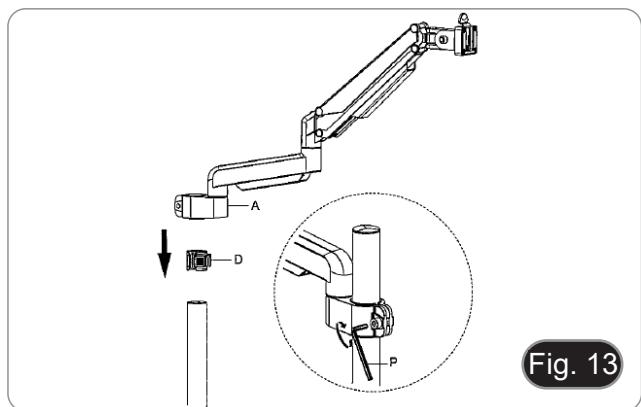

Fig. 13
6. Insert the cable holder (D) in the pillar.
7. Insert the flexible arm (A) and tighten the fixing screw. (Fig. 13)